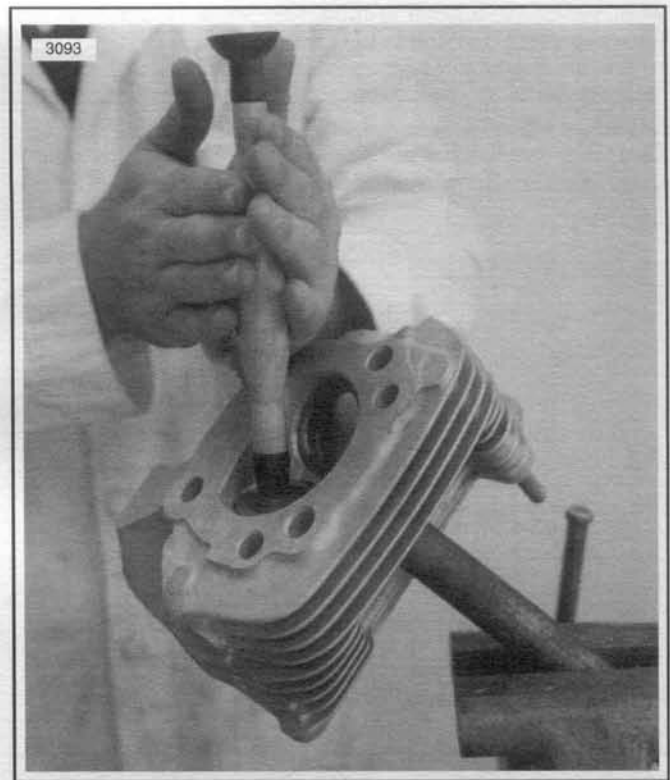

Figure 3-31. Lapping Valves
1. See Figure 3-31. Apply a light coat of fine lapping compound to valve face, insert valve in guide and give it a few oscillations with VALVE LAPPING TOOL, Part No. HD-96550-36A.